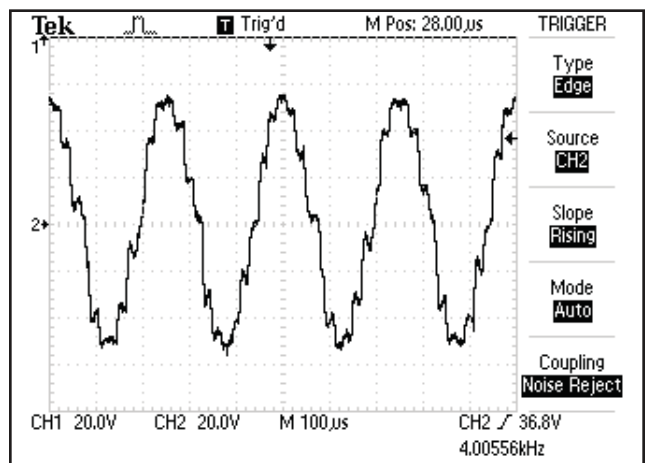

FIGURE 5.27
9. Compare waveform on scope to **Figure 5.27.**
1. Waveform on scope the same as **Figure 5.27** and the Combo Indicator illuminates. Unit passed test.